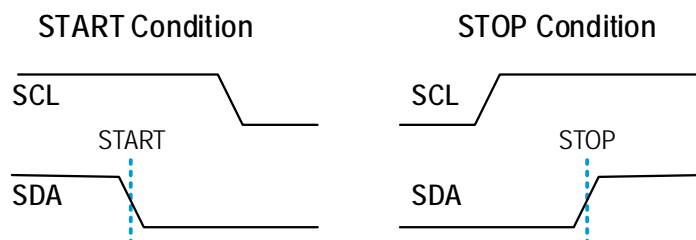

Figure 8. START and STOP Condition Waveform
The sensor transmission is initiated when the master sends a 0 START bit (S). The transmission is terminated when the master sends a 1 STOP bit (P). These bits are only transmitted while the SCL line is HIGH (see Figure 8 for waveforms).